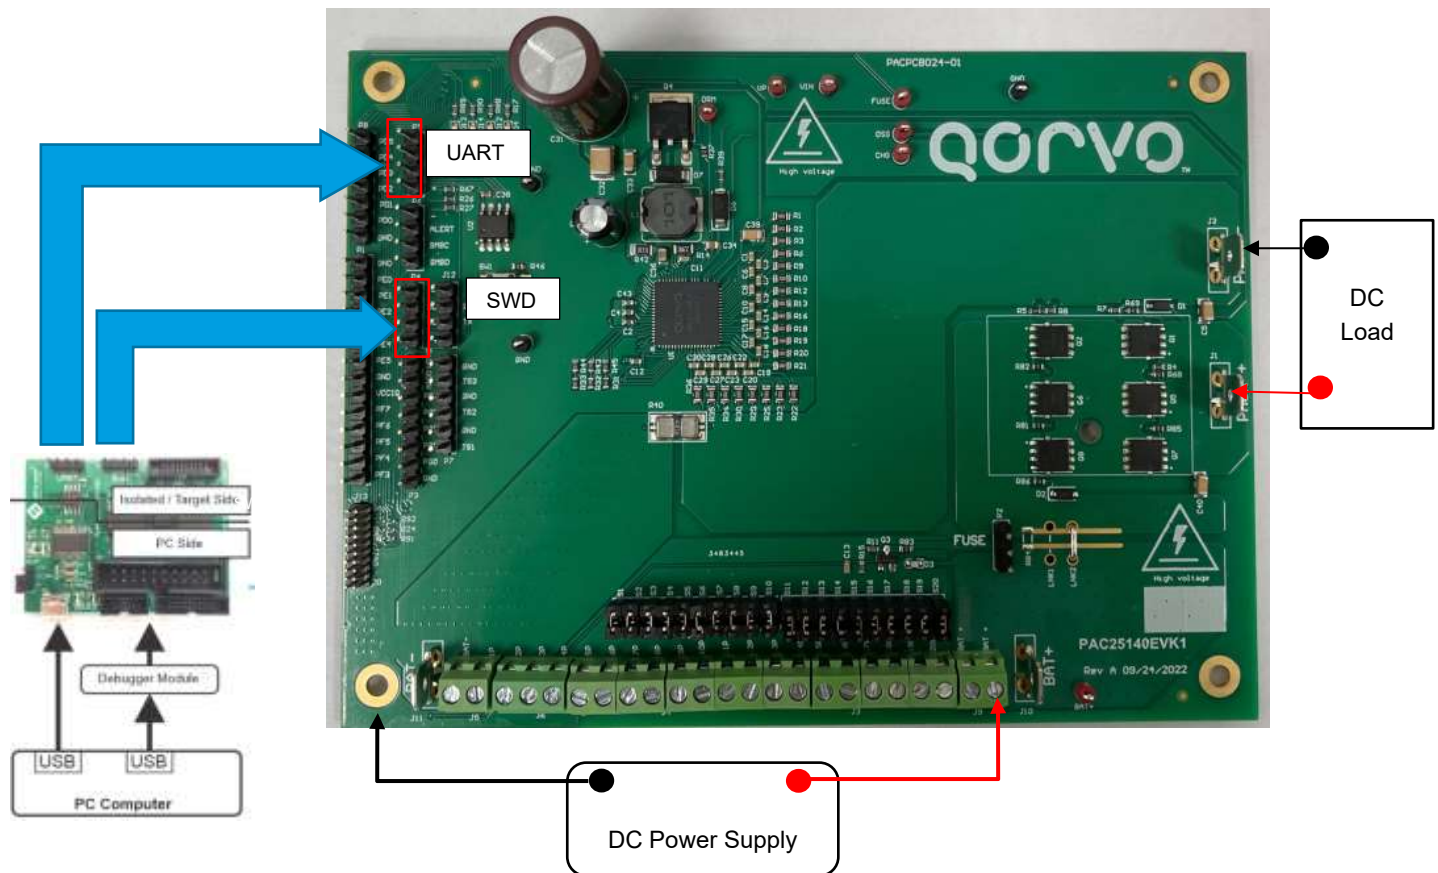

Figure 5: Evaluate PAC25140EVK with Load Current
5. With the configured PAC25140 and the FETs enabled, discharge current can be demonstrated by adding suitable resistor, or DC load, at PACK terminals as shown in Figure 5